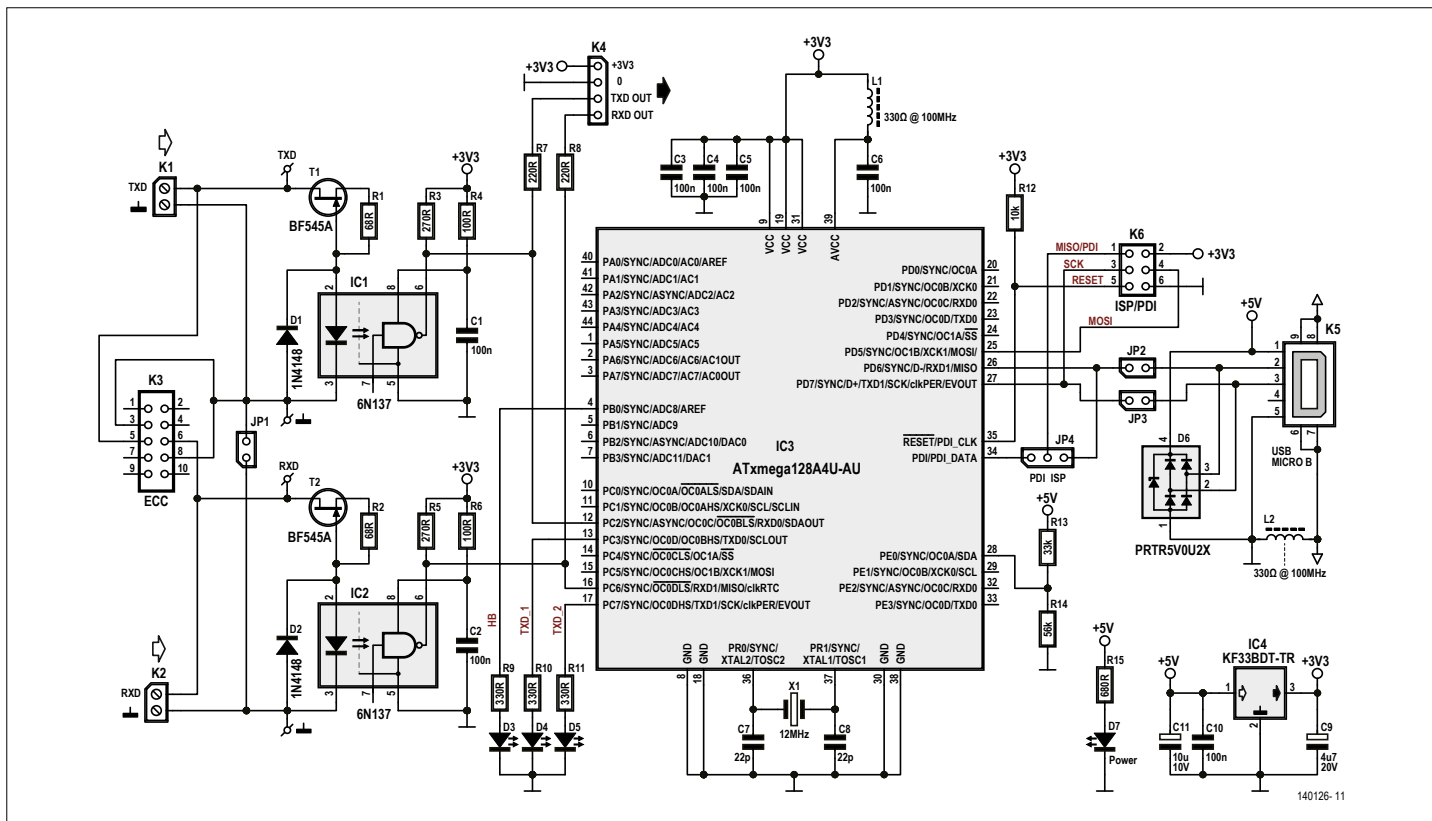

Figure 1. Schematic of the UART/RS-232 data logger.
**Figure 1** is quite modest. To avoid any problems arising from differing ground potentials, the two serial inputs are isolated electrically from the electronics of the logger and connected PC, using particularly high-speed 'digital' opto-couplers of the type 6N137. In tests these opto-couplers have performed stably at Baud rates up to 230 KBd. They are no match, however, for the elevated data rate of an FTDI cable of 460 or even 920 KBd. The two FETs T1 and T2, wired as current sources, permit input levels of up to 30 V at a current of around 3 mA. The RXD and TXD input signals can be taken either from the data transmission under investigation using flying leads or by taking the interface under test to the screw terminals K1 and K2. K3 is used when examining a UART connection passing via an Embedded Communication Connector (ECC). An example might be between the Elektor Extension Shield and one of the converters already described in Elektor
On the right-hand side of Figure 1 we can see the six-pole programming connector K6, which can be toggled between ISP and PDI modes using jumper JP4. Serial signals from the USB connector K5 are